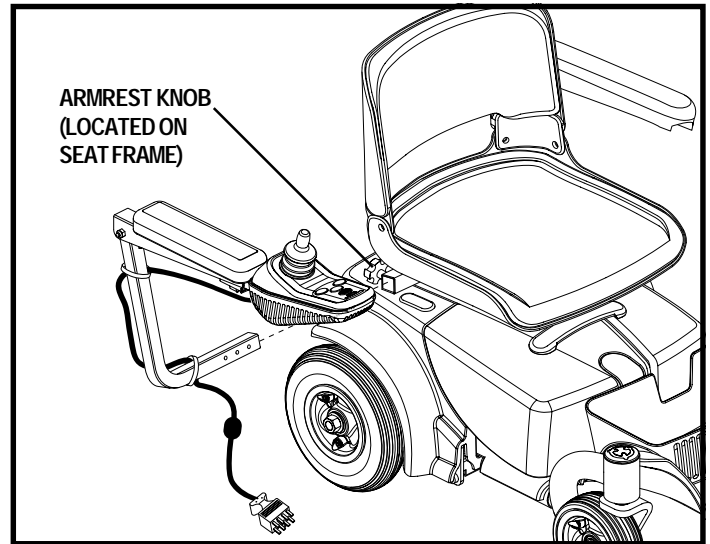

Figure 18. Armrest Width Adjustment
1. Locate the two armrest knobs on each side of the armrest receiver bracket. See figure 18.